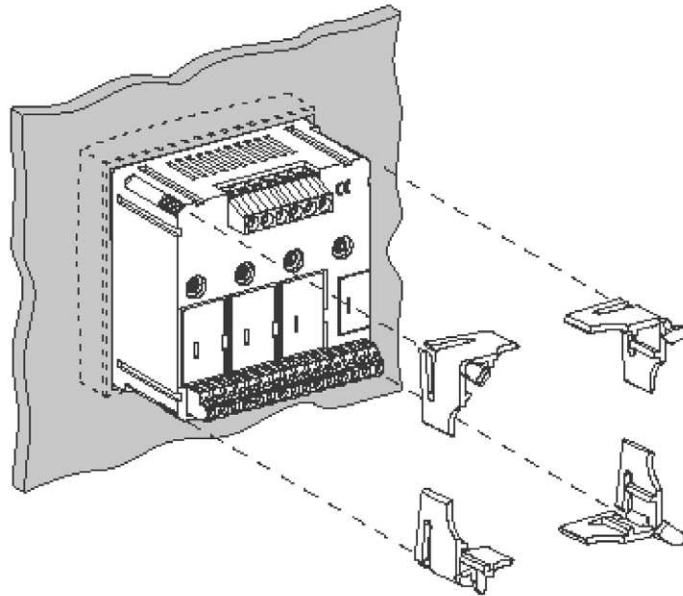

Figure 4-2 Mounting
2. Secure the device from behind with the four clamps, as shown in Figure 4-2.